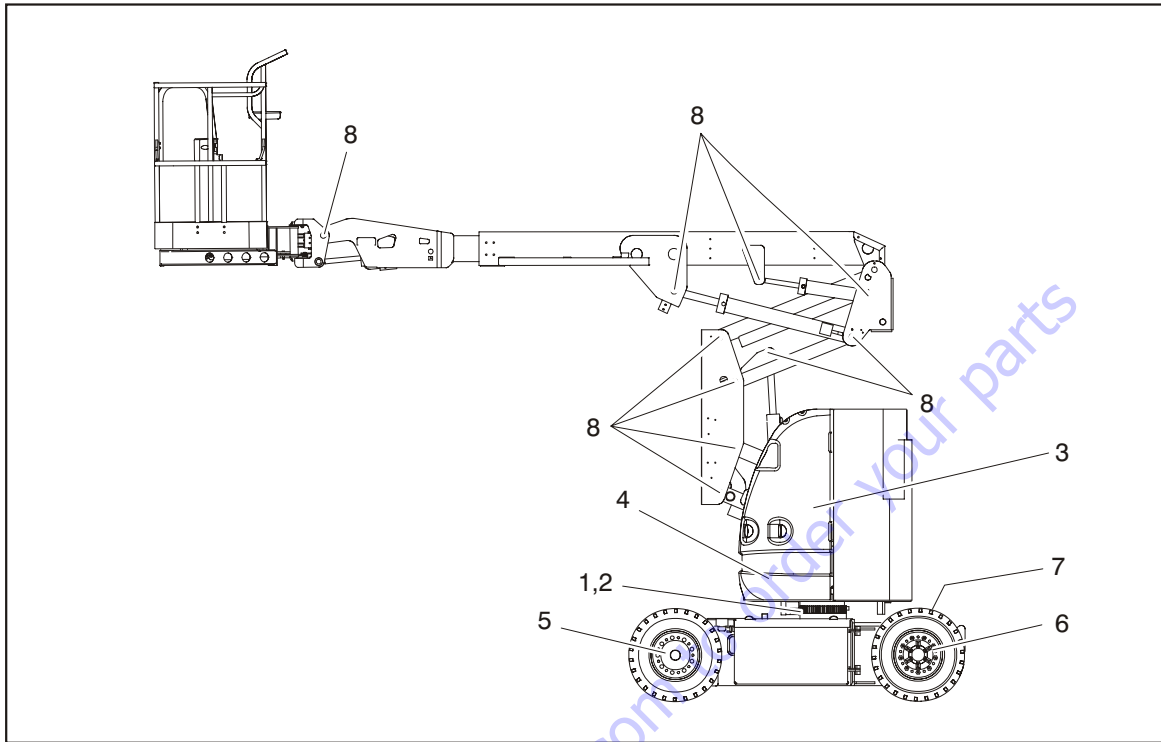

Figure 1-1. Operator Maintenance & Lubrication Diagram
**NOTE:** The following numbers correspond to those in Figure 1-1., Operator Maintenance & Lubrication Diagram.